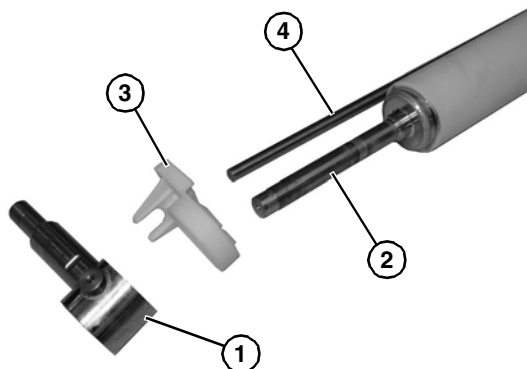

Figure 63
- Slide the motor support bracket (**Figure 63, item 1**) off the drive spindle (**Figure 63, item 2**).
- Remove the pinch guard (**Figure 63, item 3**) from pinch guard shaft (**Figure 63, item 4**) and drive spindle.